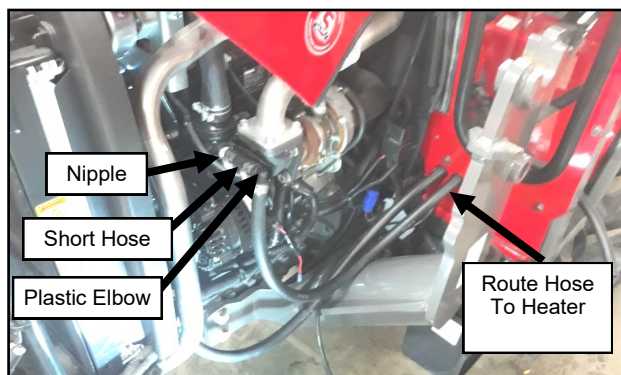

Fig. 17.15 (Left Side Of Engine Bay)
17.15 Remove the plug on the left side of the engine and install the supplied nipple with Teflon tape. Cut a short piece of hose and install to the plastic elbow provided with a small hose clamp. Install the elbow assembly to the nipple with another small hose clamp oriented as indicated but do not tighten clamp. Install the remaining length of hose to the other side of the elbow. See Figure 17.15. Check the fit of the left engine guard. The heater hose should be almost touching it and route out the slot in the rear lower corner. Adjust the length of the short piece of hose if necessary. Route the hose down the left side of the engine and toward the cowl.